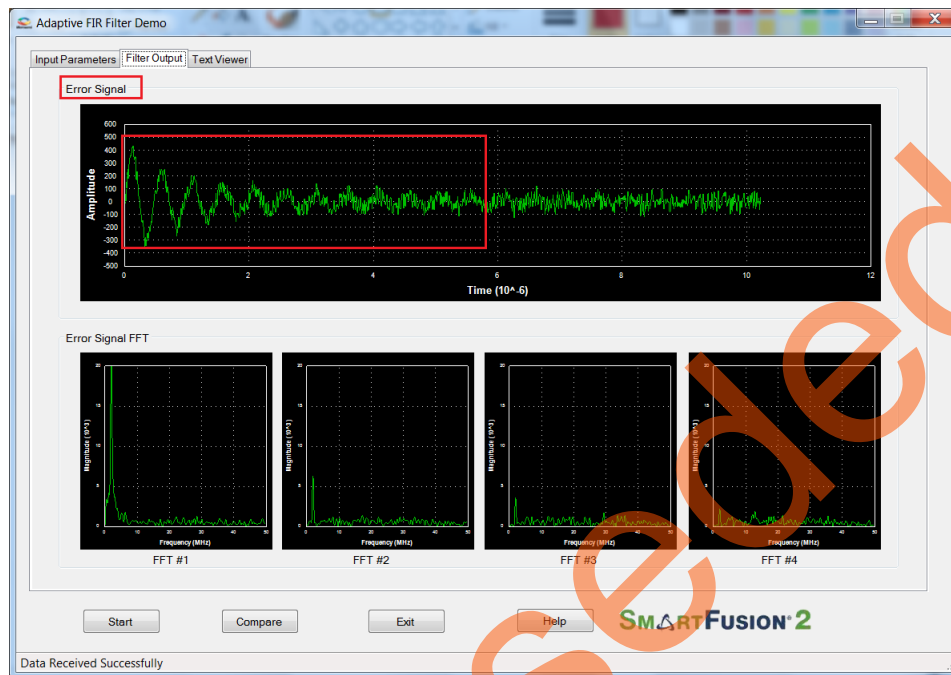

Figure 20 • Error Signal: Time and Frequency Plot
6. After completing the filter operation, the GUI receives the error data and its FFT data from the SmartFusion2 device and plots as shown in Figure 20. The error signal plot shows the suppression of narrow band component from the wide band signal only after the required number of iterations.